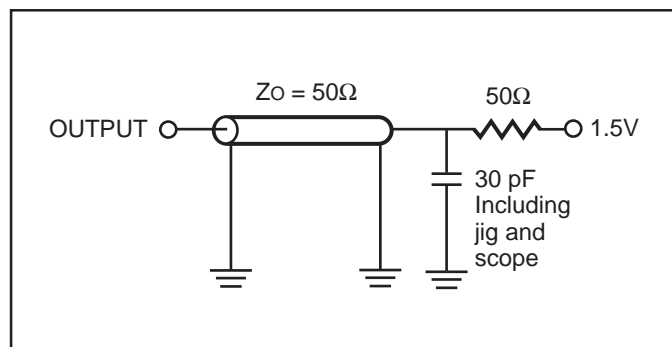

Figure 1.
Output Load	See Figures 1 and 2
1. Test conditions assume signal transition times of 3 ns or less, timing reference levels of 1.5V, input pulse levels of 0V to 3.0V and output loading specified in Figure 1.